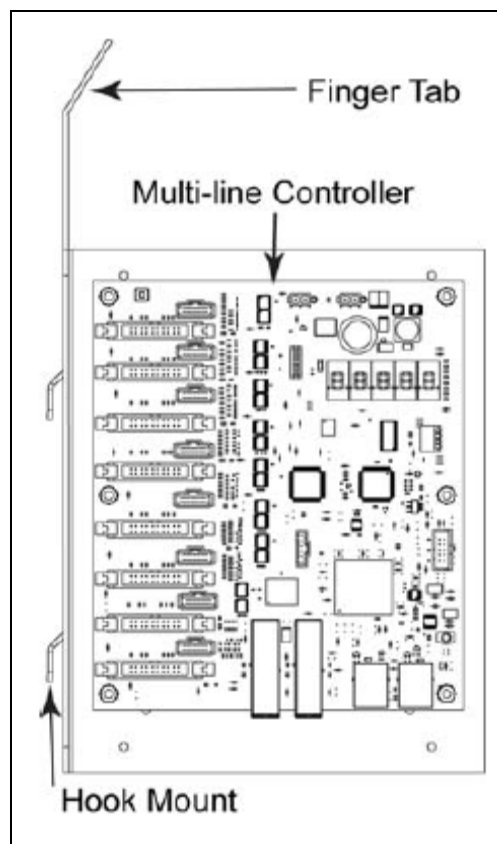

Figure 12: MLC Assembly
3. Pull the finger tab and lift the MLC assembly. Refer to **Figure 12**.